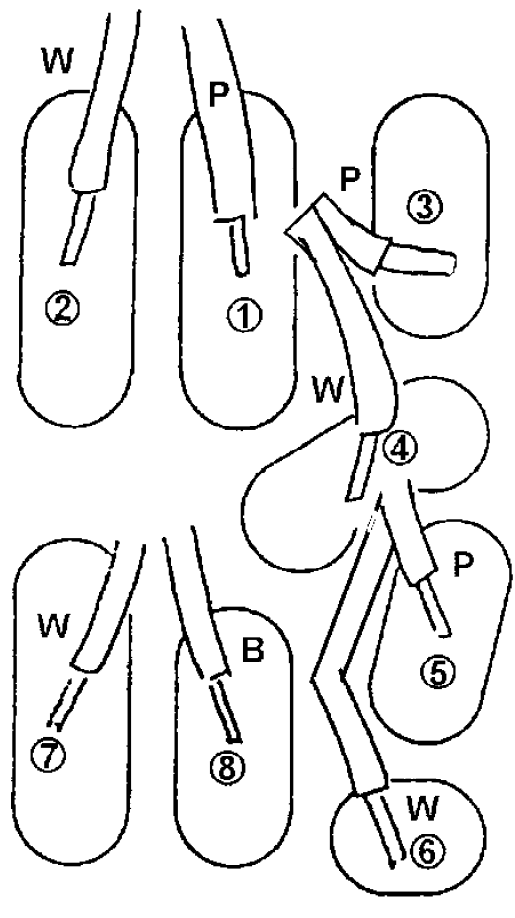

Fig. 6-2-3
5. Unsolder the lead wires as shown in **Figure 6-2-3**.
1. Remove the Shield Case from the New A/C Head and solder the lead wires to New A/C Head (Refer to **Figure 6-2-3**).
3. Install the A/C Head to A/C Head Plate and tighten 2 screws (A) so that A/C Head is parallel to A/C Head Plate.
5. Put on the Head Height Adjustment Spring and tighten the Nut (C).